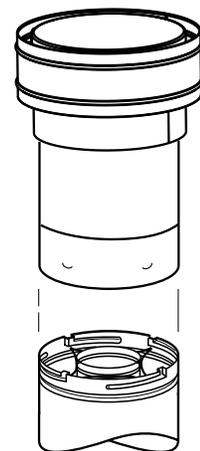

Figure 26
K. Install the vertical termination - The final step involves installation of the SV4.5CGV-1 Vertical Termination. Extend the vent sections to the height as shown in the "Vertical vent termination section" on **page 5**. The SV4.5CGV-1 Vertical Termination (**Figure 26**) installs in the exact same fashion as any other **Secure Vent** section. Align the termination over the end of the previously installed section, adjusting the radial alignment until the four locking dimples of the termination are aligned with the inlets of the four incline channels of the last vent section. Push the termination down until it fully engages, then twist the termination clockwise running the dimples down and along the incline channels until they seat at the end of the channels.